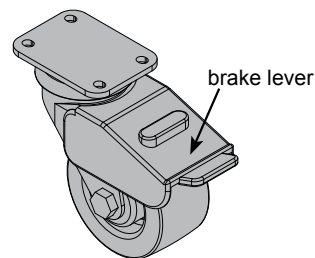

**Figure 4**
1. If your LINK is equipped with a toe kick, and you wish to attach it to the floor, the toe kick will need to be detached from the lectern. To detach, remove the (4) 1/4-20 x 40mm JC bolts (one on each corner from inside the lectern) with a 4mm hex wrench.
2. Carefully lift the lectern off the toe kick. This will require several people. **Figure 4.**
3. Locate the toe-kick into its final position on the floor and mark the (4) mounting hole locations on the floor (The toe kick mounting holes are 1/2" dia.)
5. Carefully lift the lectern back onto the anchored toe kick and align the (4) mounting holes.
6. Re-attach the lectern to the toe kick with the (4) previously removed JC bolts.